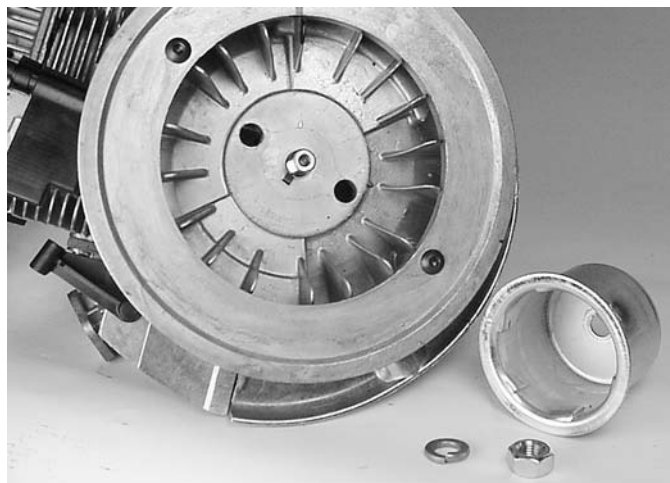

Fig. 20
1. Remove flywheel nut and starter cup (Figure 20).